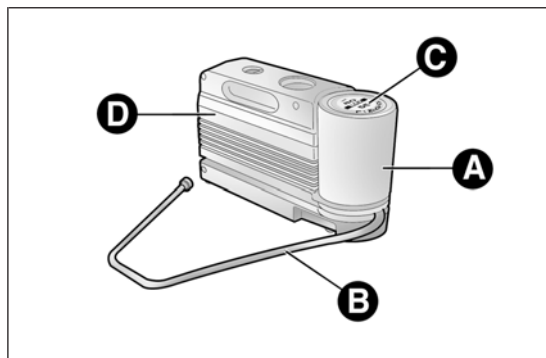

fig. 124
- ☐ a bottle fig. 124 containing sealer and fitted with: filling tube B and adhesive label C with the wording "max. 80 km/h" to be placed in a clearly visible position (e.g. on the dashboard) after repairing the tyre;